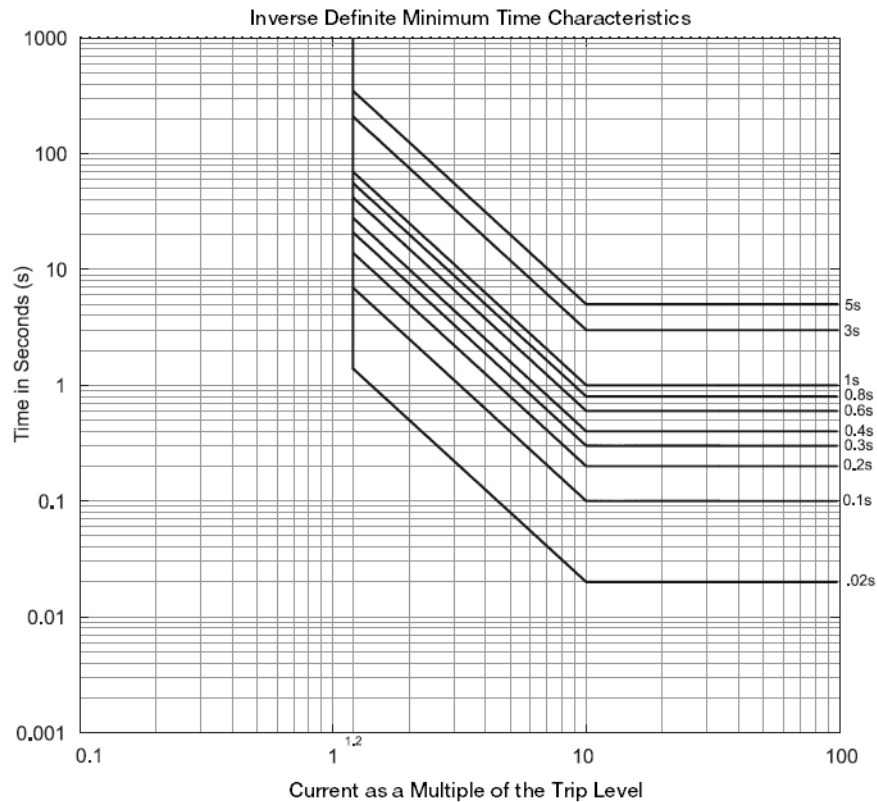

Figure 3.0 IDMT Time-Current characteristics
As indicated, the above equation is valid for a fault current of magnitude between 1.2x pick-up to 10x pick-up. For a relay to trip according to any of the IDMT curves represented by Eqn. (1), the fault current must have a value of just above 1.2 times the pick-up. For $M > 10$, the trip time is definite and matches with the DMT settings. The IDMT characteristics are shown in Figure 3.0.
Answer: The relay will trip in 4 seconds (verify using Figure. 3.0).